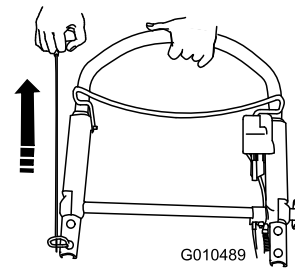

Figure 21
3. Pull the recoil starter (Figure 21).